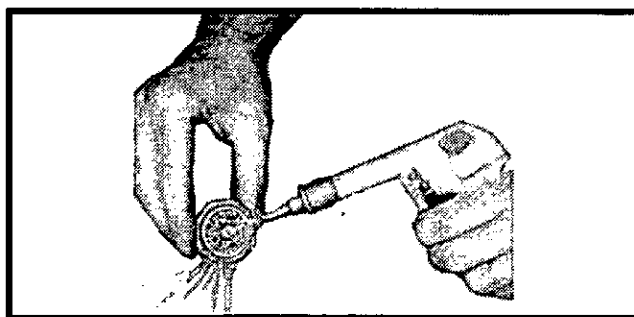

Figure 5-21 Dry the Engine Oil Filler/Breather
3. Use an air jet to remove excess solvent, (Figure 5-21).